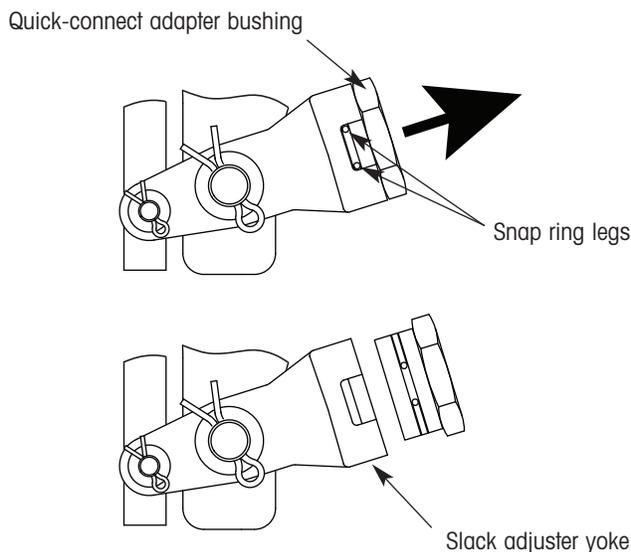

Figure 6. Quick-connect adapter bushing removal details
- Remove the quick-connect adapter bushing from the slack adjuster yoke by simultaneously squeezing the snap-ring legs and pulling the adapter bushing away from the slack adjuster (figure 6).